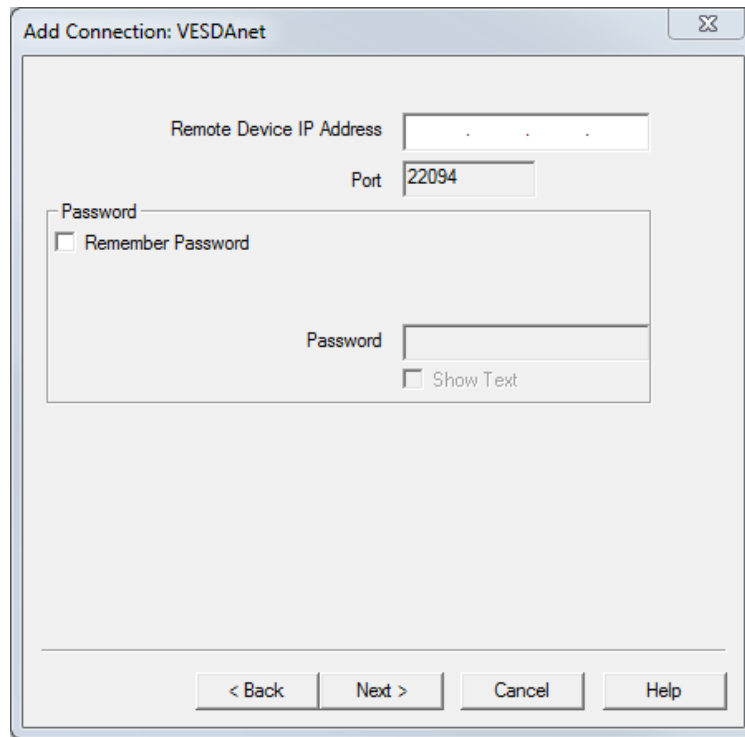

Figure 5-6: Enter IP Address
2. Enter the IP address which is used to access the detector. Optionally tick the checkbox next to "Remember Password" and then enter the password that has been configured in the detector configuration General Options for Ethernet connection. (See section 5.5.1) (Figure 5-6).